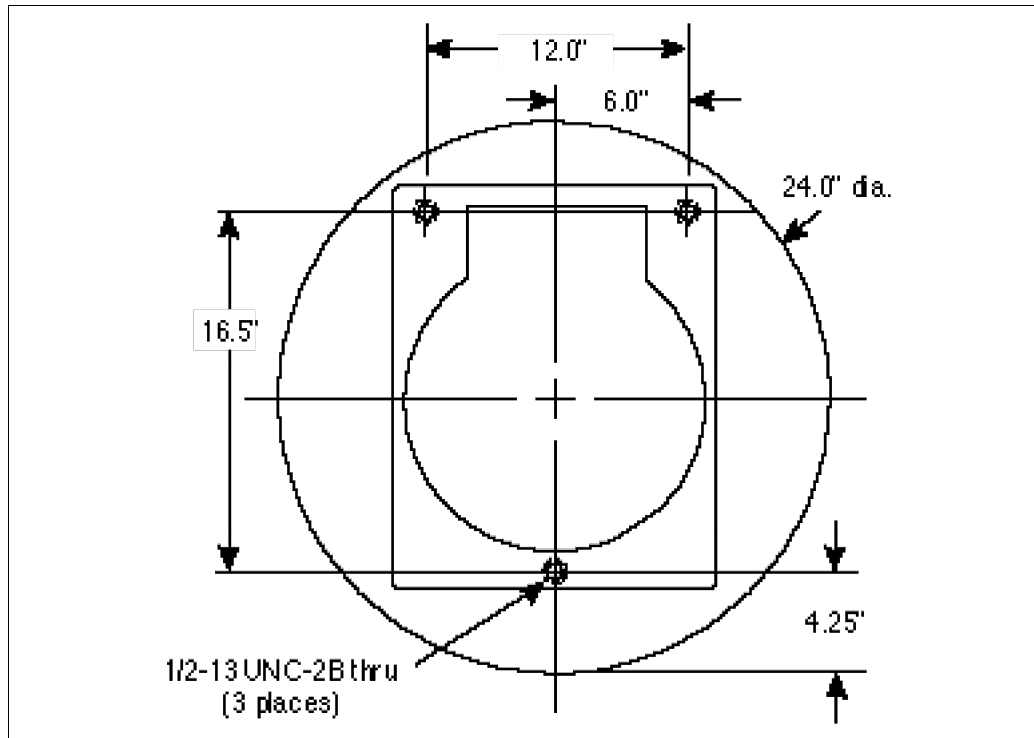

Figure 3-2. Mounting Hole Pattern (Robot-to-Plate/Spool)
- Mounting hole pattern: as shown in Figures 3-2 and 3-3
1. Drill and tap three (3) 1/2-13 UNC-2B mounting holes, as shown in Figure 3-2, for robot-to-plate attachment.
1. Drill and tap three (3) 1/2-13 UNC-2B mounting holes (through), as shown in Figure 3-2, for robot-to-spool attachment.